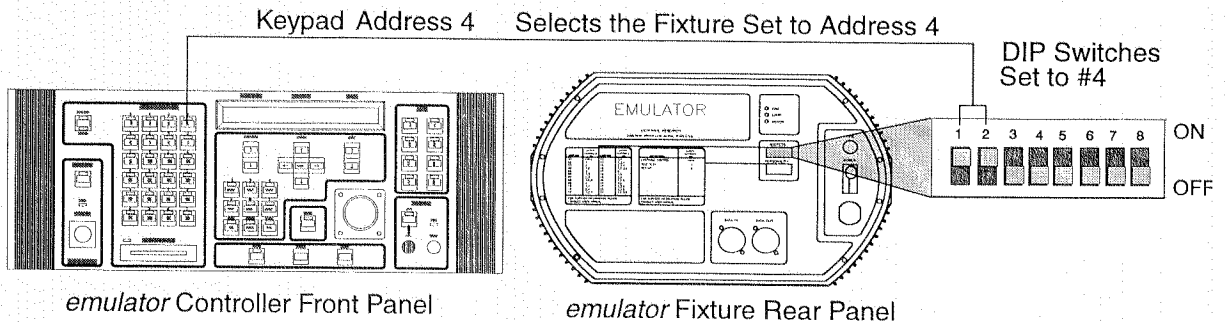

Figure 2.27. Setting *emulator* Fixture DIP Switches
During operation you select one or more fixtures by pressing Address keys on the controller’s Address/Preset Keypad. In order for the controller to find the fixture when you press a key, the fixture must be set to the corresponding Address number (1 to 24). For example, when you press Address key 4 on the controller, the controller selects fixture 4. Therefore, you must assign a unique address to each fixture that corresponds to one of the 24 Address keys on the controller. You do this by setting DIP switches on the fixture’s rear panel. Refer to Figure 2.27.